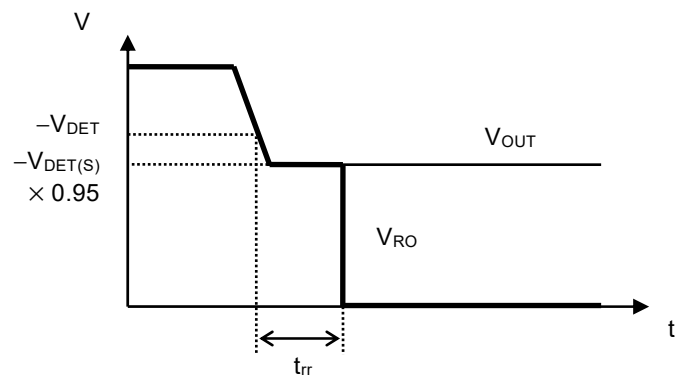

Figure 6 Reset Reaction Time
*4. The time from when V_{OUT} falls below $-V_{\text{DET}}$ to when the RO pin output inverts (Refer to **Figure 6**). The time period from when V_{OUT} changes to $V_{\text{OUT(S)}} \rightarrow -V_{\text{DET}}$ to when V_{RO} reaches $V_{\text{OUT}} / 2$.